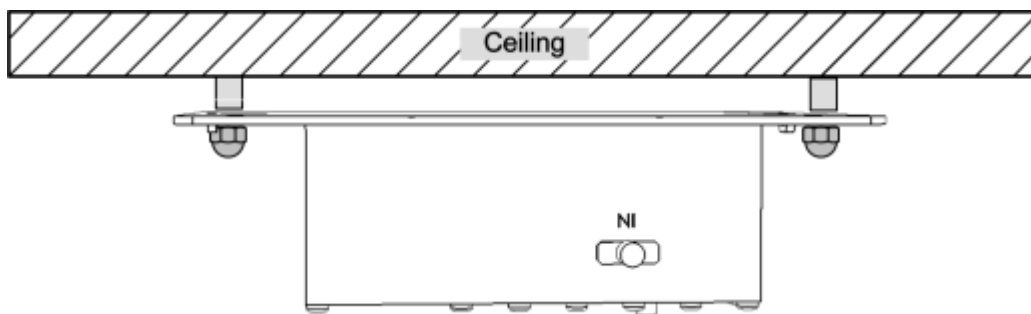

Figure 5-2. Illustration of Cavity Filter Mounted on Ceiling
- Mount the Cavity Filter as shown in Figure 5-2.